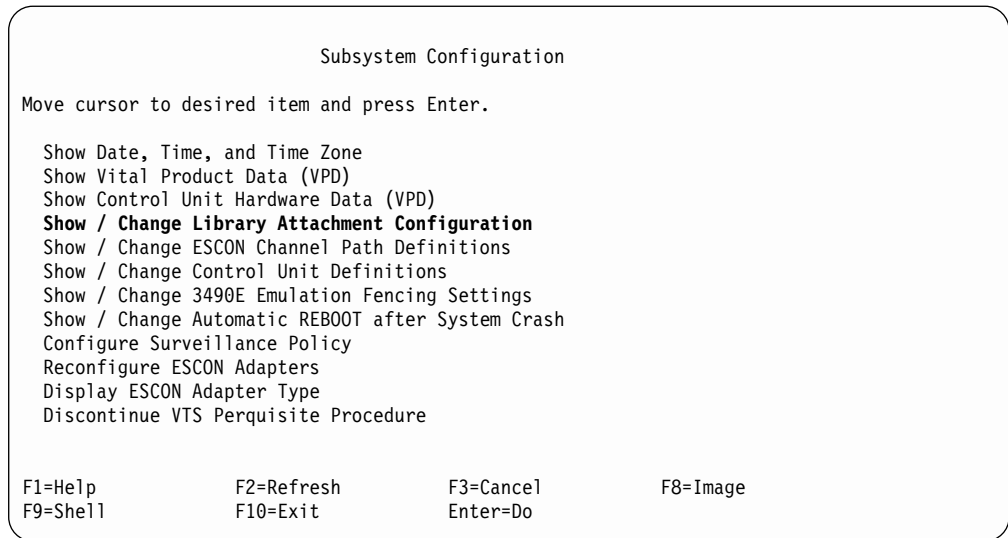

Figure 159. System Configuration Screen
2. Select **Subsystem Configuration**. Press **ENTER** . Figure 159 on page 412 displays.